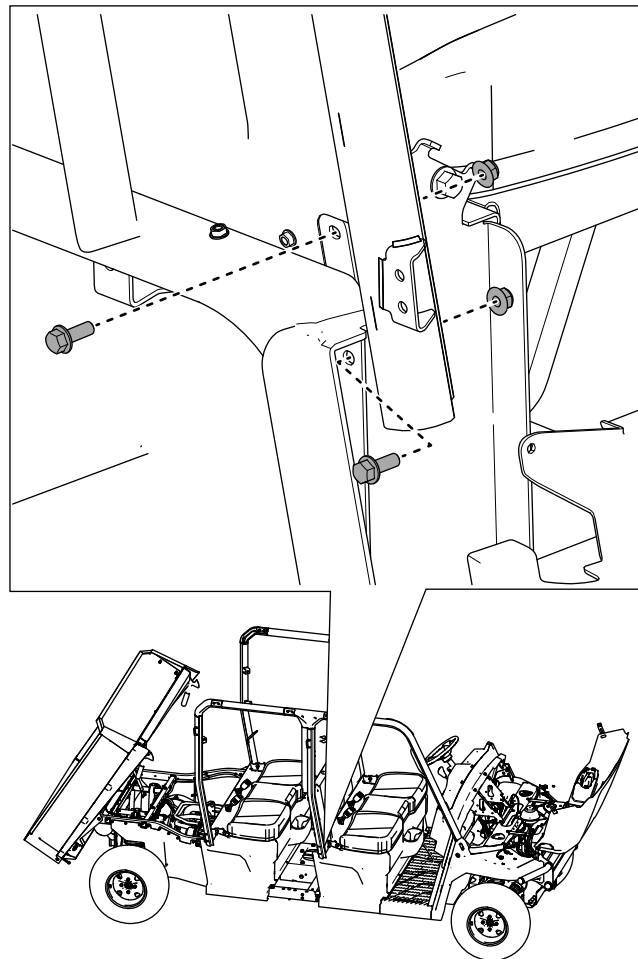

Figure 47
13. Loosely secure the bottom of the right, middle roll bar assembly to the seat base assembly using 2 flange-head bolts (3/8 x 1 inch) 2 locknuts (3/8 inch) as shown in Figure 47.